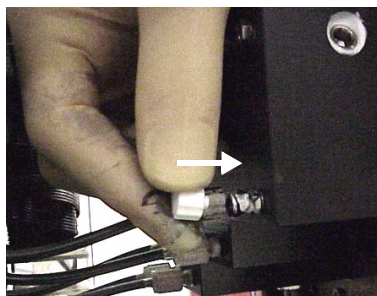

Figure 32. **Fitting Plastic Cap**
7. Screw a white plastic cap onto the nipple and gently turn in a *clockwise* direction for half a turn to seal it - see Figure 32.